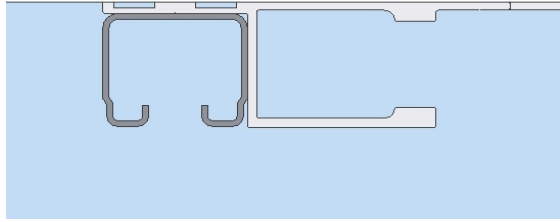
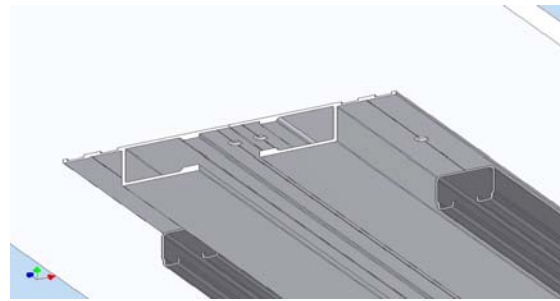

Figure 4.1a. Positioning Track
Figure 4.1b. Staggered Track and Chain Guide Joints
Locate the (2) Loading Sections of track. Position (1) of the loading track sections so that the edge is butted tightly against the striker wall and the inside edge it is tightly butted up against the chain guide as shown in **Figure 4.1a**. Use the label on the section to determine which side (“A” or “B”) it is to be installed. Check to see that the holes in the track and chain guide are aligned. Make sure that the joints of the track overlap the joints of the chain guide by 6” as shown in **Figure 4.1b**. Mark the location of the pre-drilled holes on the header. Remove the section of track and drill pilot holes into the header using a #28 (0.141 Diameter) drill bit. Pilot holes should be perpendicular to the header, as angled pilot holes will cause joint alignment problems. Use the 4” x #10 screws provided to mount the track to the header. Repeat for remaining Loading Section.